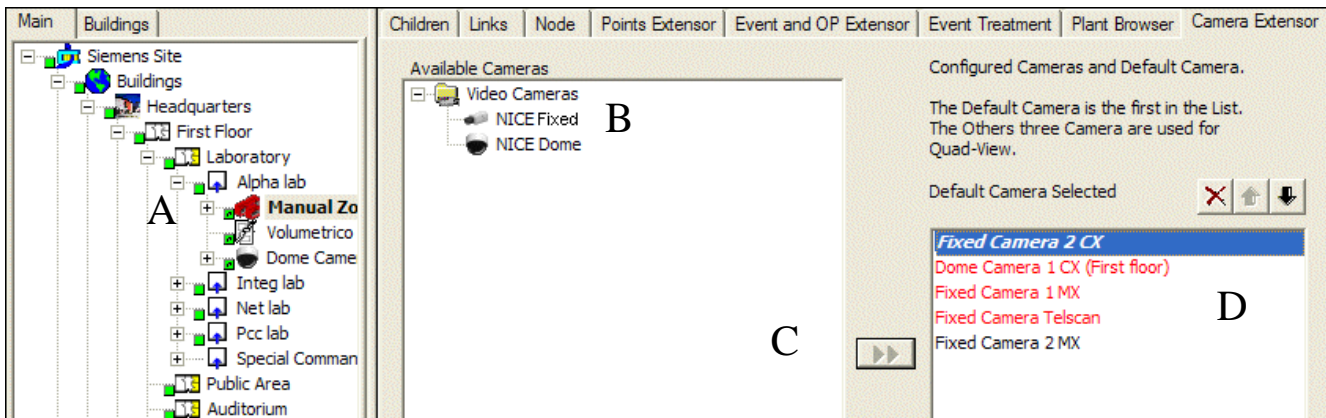

Fig. 13 Camera association
First, select the point node in the tree. Then, in the **Camera Extensor** tab (Fig. 13) you can see the camera associations and manually add one or more cameras.
- Note:** The next three cameras (if available) display in red text – these will be displayed in the quad view. Any additional cameras associated to the point display in black text. (See Fig. 13, “D”.)